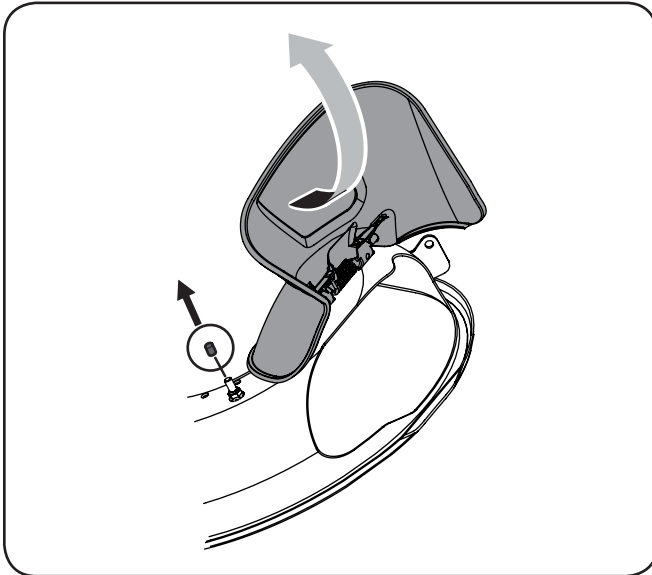

Figure 1-3
1. Pivot the chute deflector upward and remove the protective cover from the threaded pin found on the deck's surface. See Figure 1-3.